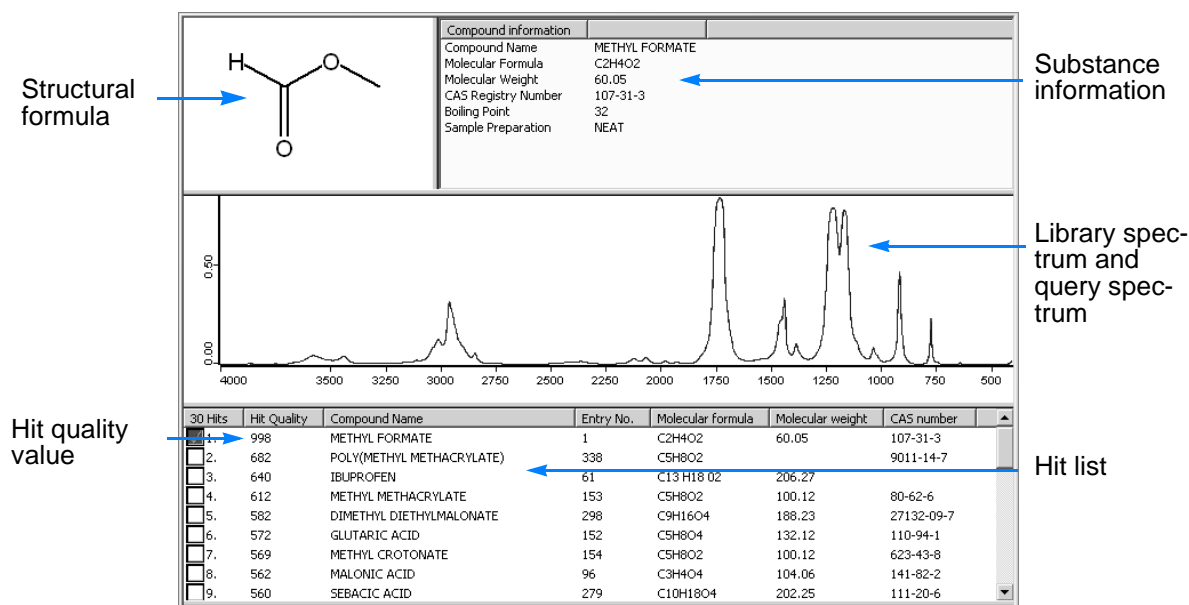

Figure 61: Spectrum Search report
- Immediately after OPUS has completed the spectrum search, the search report is shown (see figure 61).
The search report consists of 4 sub-windows (see figure 61). The lower sub-window shows the list of all hits found in the selected library (libraries). By default, the first hit in the hit list is marked and its information (spectrum, structural formula and compound information, e.g. compound name, molecular formula, molecular weight etc.) are displayed in the upper three sub-windows. To see this kind of information for another hit, click in the hit list of the hit of which you want to see more information.